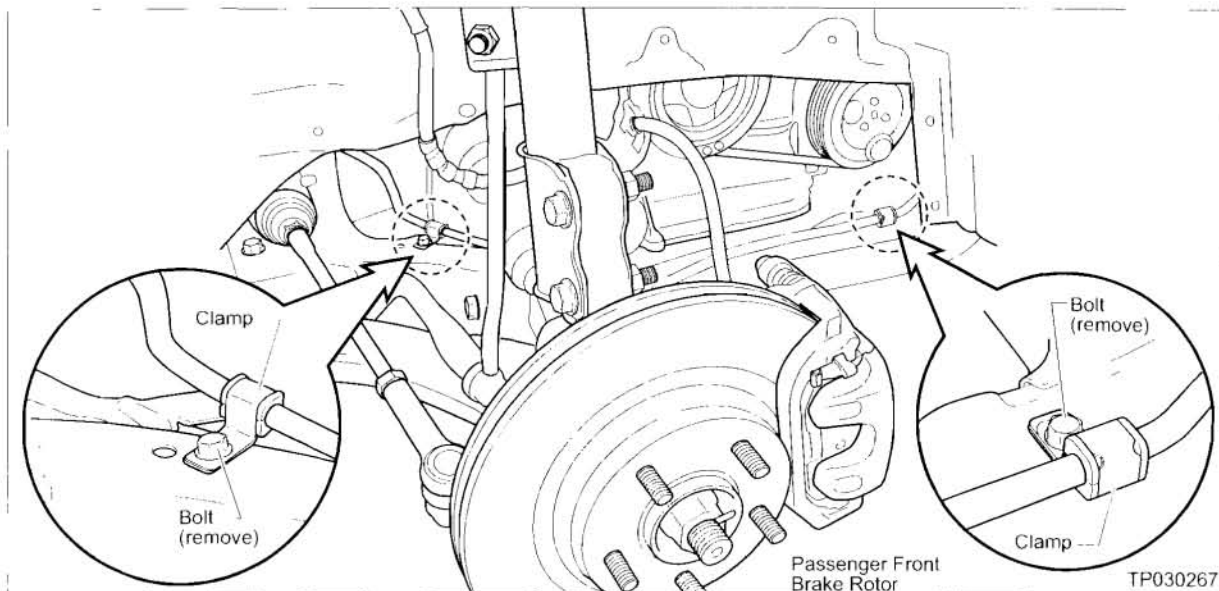

Figure F6
- Remove the Power Steering Pipe Clamps on the engine cradle before removing the engine (see Figure F6).